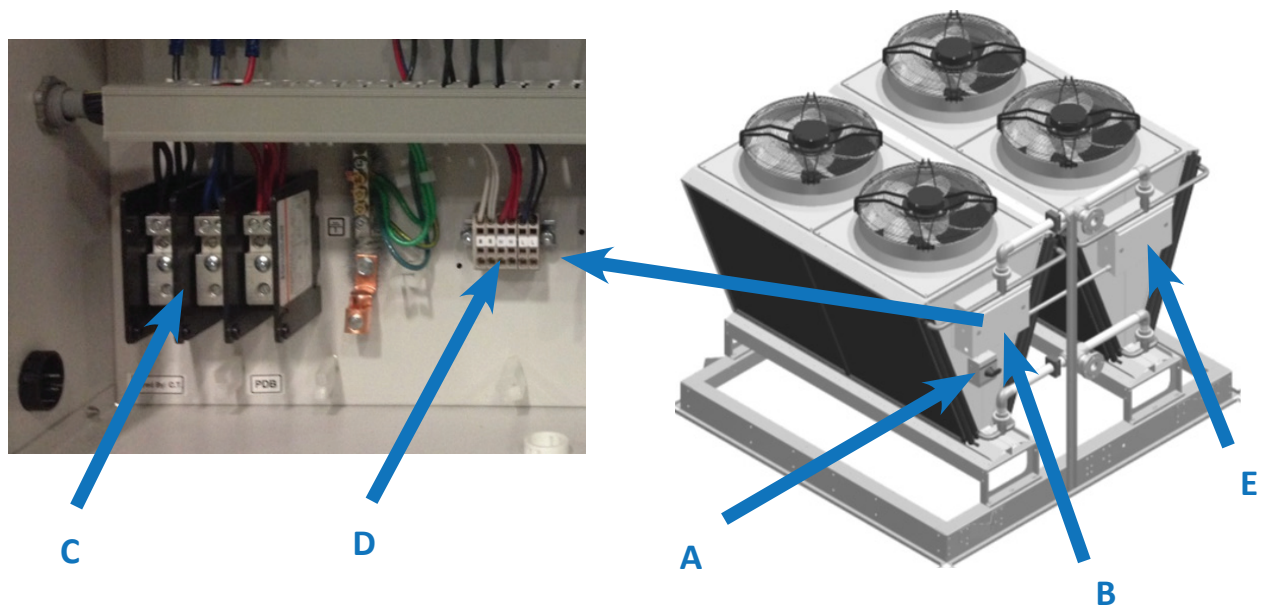

Figure 7. Multiple Systems Cooling Circuits
- Connect main ("high") power for the equipment to its disconnect (A) (if equipped with one – see Figure 7) - disconnect would be factory-wired to the PDB (power distribution block) (C) directly; if equipment does not have disconnect, connect power to the PDB (C), located in the main electric panel (B).
- ▶ Multi-"V" dry coolers would have multiple factory-wired electric panels (E) – all panels would be connected in parallel; only one dedicated (main) panel to be used for external power connection.
- Verify that proper voltage and number of wires (single -phase vs three-phase – see Figure 7.) are connected to the equipment – refer to the equipment main label and submittal documentation